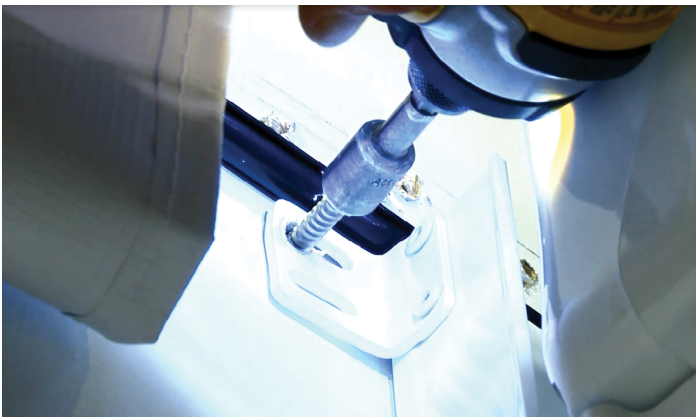

Fig.38
A. If using the original angle bracket on the new support arm assembly, place the drive support arm assembly directly under the awning rail so the top of the mount arm is touching the bottom of the rail. Secure the upper section of the drive mount arm to the unit with the provided #14 x 1 1/4" screws, aligned directly below the holes of the awning removed (**Fig.38**).